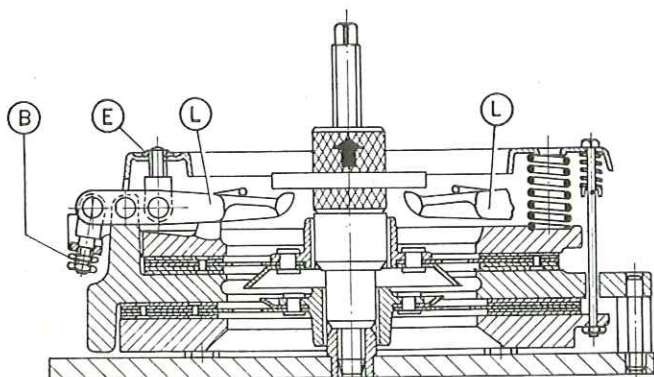

Fig. 39. - Setting the distance and checking co-planarity between the three release levers and disc D.
- Set release levers L at the correct distance from the surface of the clutch plate fixed to the flywheel, and check that the lever contact points are on the same plane perpendicular to the clutch shaft axis (fig. 39) (co-planarity of the release levers - allowance: 0.004 in.; 0,1 mm).